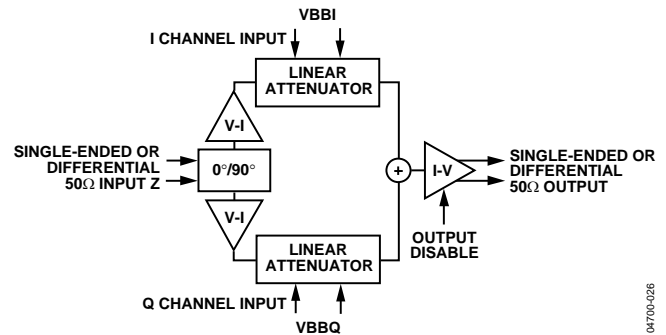

Figure 26. Simplified Architecture of the AD8341
The AD8341 is a linear RF vector modulator with Cartesian baseband controls. In the simplified block diagram given in Figure 26, the RF signal propagates from the left to the right while baseband controls are placed above and below. The RF input is first split into in-phase (I) and quadrature (Q) components. The variable attenuators independently scale the I and Q components of the RF input. The attenuator outputs are then summed and buffered to the output.